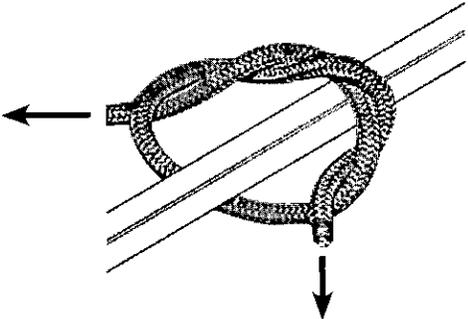

Figure 5
- 8. a. Tie one end of the provided 9' rope to the link welded onto the stabilizer bar, just in front of the tree hugger. **Be sure your double knot is secure. SEE FIGURE 5.**
b. Tie one end of each of the provided 15' ropes to the square tube side rails and tree blade frame, just in front of the welded on tree blade. **Be sure your double knots are secure. SEE FIGURE 5.**